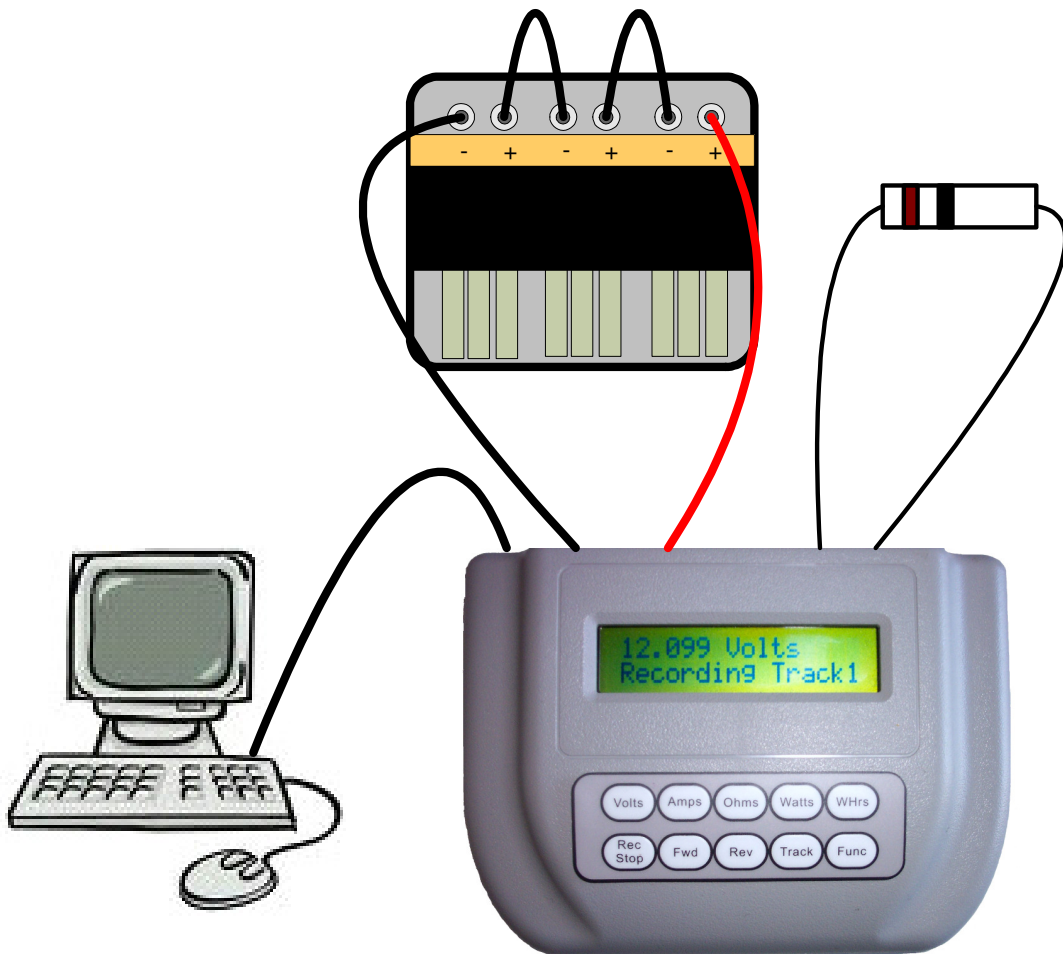

Figure 1 – Initial Equipment Setup
1. Setup the equipment as shown in Figure 1 below. Wire the opposite side of the solar panel so that all 3 modules are in series in order to produce maximum voltage. You can use clip leads or the wires with looped ends to hookup the two inner solar modules together (+ to -). Then attach a clip lead from the left-most negative (-) post to the Black Input terminal on the **Smart Meter – Data Logger™** and another clip lead from the right-most positive (+) post to the Red Input terminal on the **Smart Meter – Data Logger™**. Also add a 100 ohm resistor to the Output terminals – the polarity doesn't matter.